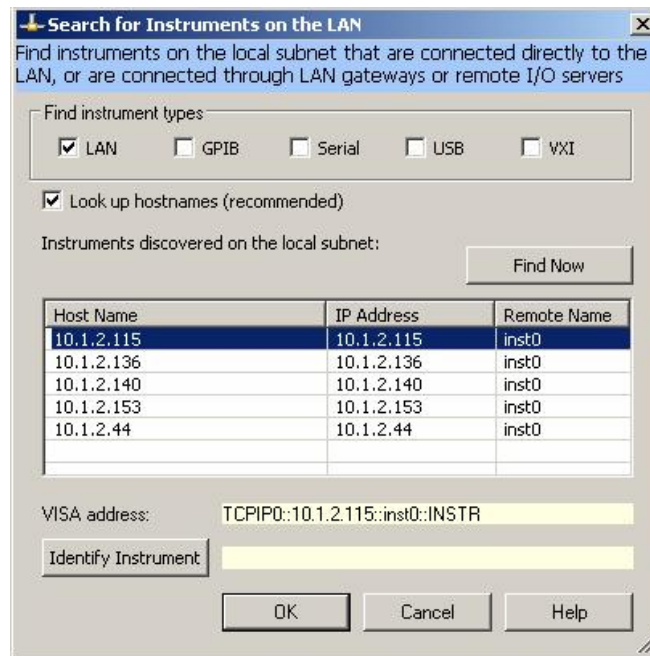

FIGURE 2-6: INSTRUMENTS DISCOVERED BY CONNECTION EXPERT
- 8) Double click on the instrument of interest (see Figure 2-6).